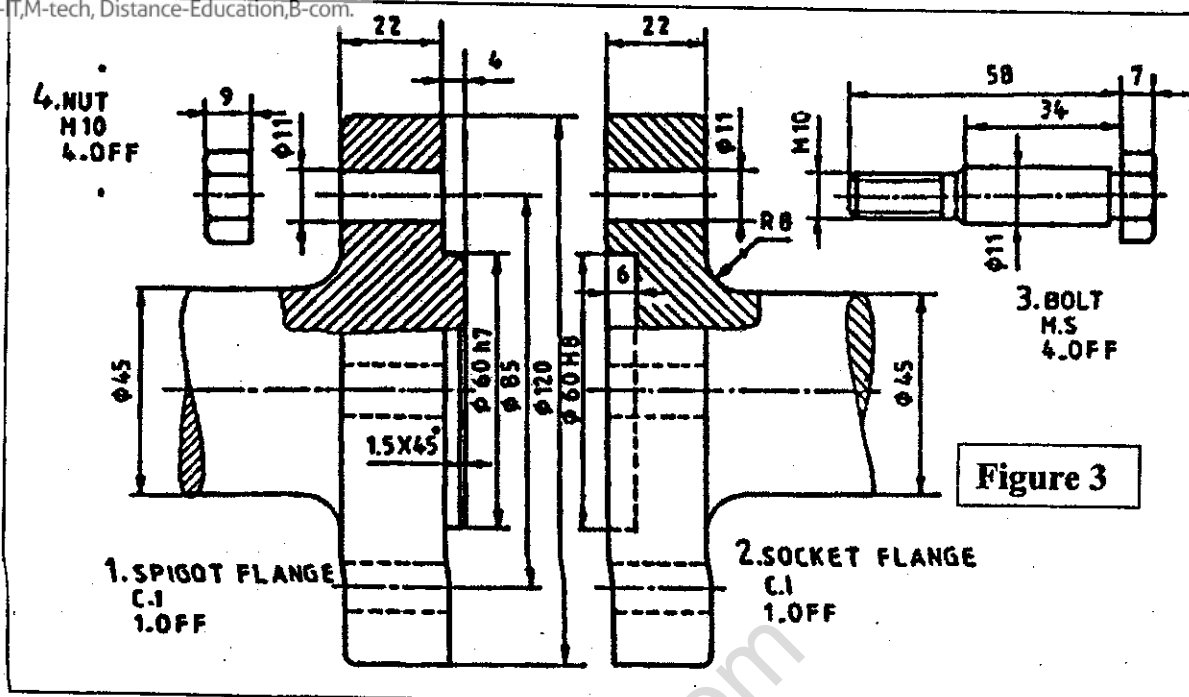

Figure 4
- Q7)** Figure 4 shows the details of Plummer Block. Assemble the given components and draw the right half sectional front view of assembly.